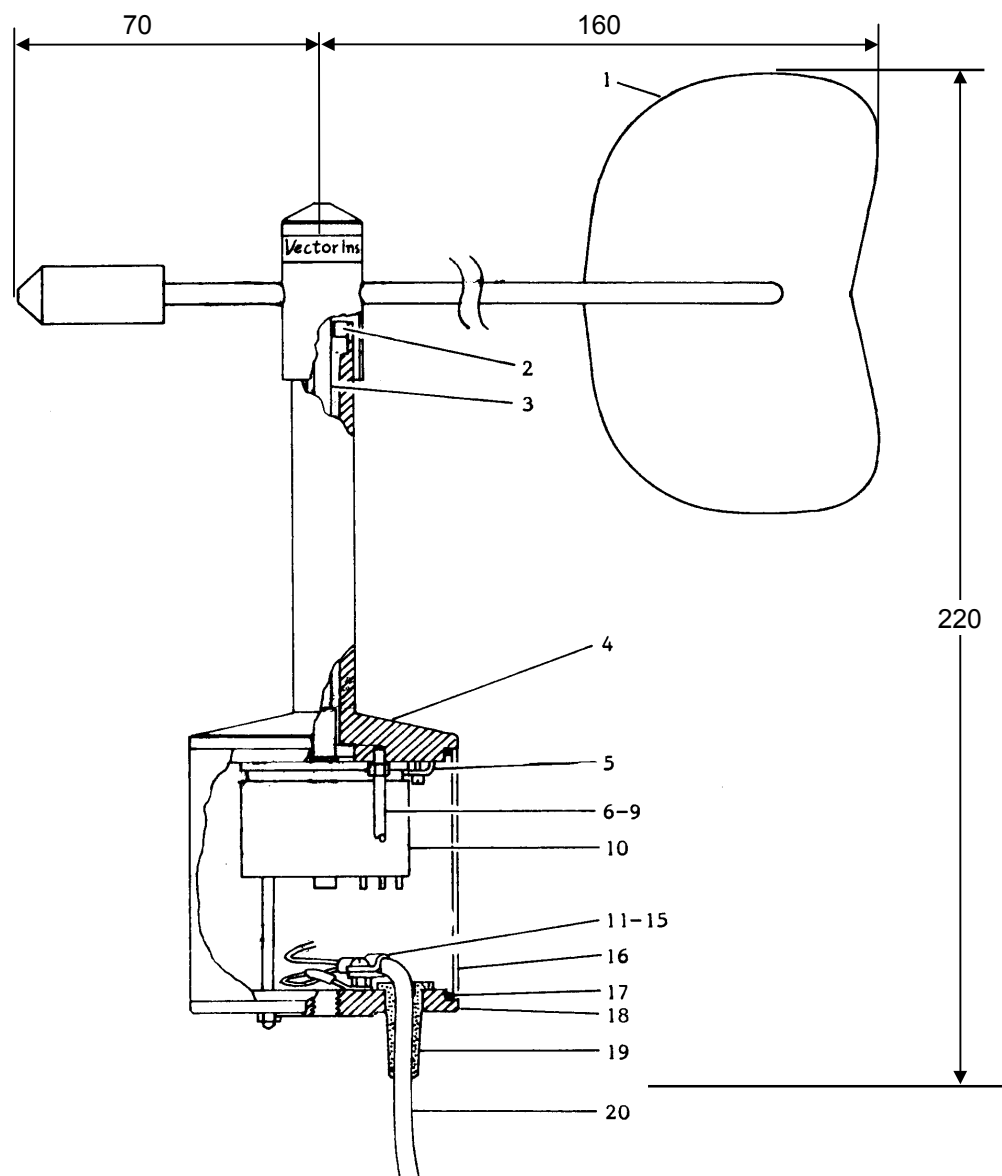

Figure 3 W200P Windvane — General Arrangement
3. Refer to Figure 3, below. Unscrew the nuts holding the base plate (18) using a 5 BA (5.5mm AF) nut-driver, pull off the base plate with body tube (16) and unsolder the wires from the potentiometer (10).
4. Remove the three servo mounting clips and take out the potentiometer with the spindle (3) attached.
5. Insert the new spindle with potentiometer if this has been obtained as an assembly. Alternatively, grip the spindle in a vice with soft jaws, unscrew the old potentiometer and screw on the new potentiometer. Clamp the potentiometer onto a rigid base and check the concentricity of the spindle using a DTI gauge. Adjust by bending to obtain concentricity to ± 0.002 " (0.05mm). Replace into top plate (4), and tighten the servo mount clips.
10. Remove the fin and check that the spindle does not touch the top bearing (2) as it rotates.
11. On final assembly, apply non-drying silicone rubber compound around studs (6) and replace the washers (8) and nuts (9). Wipe off excess compound.